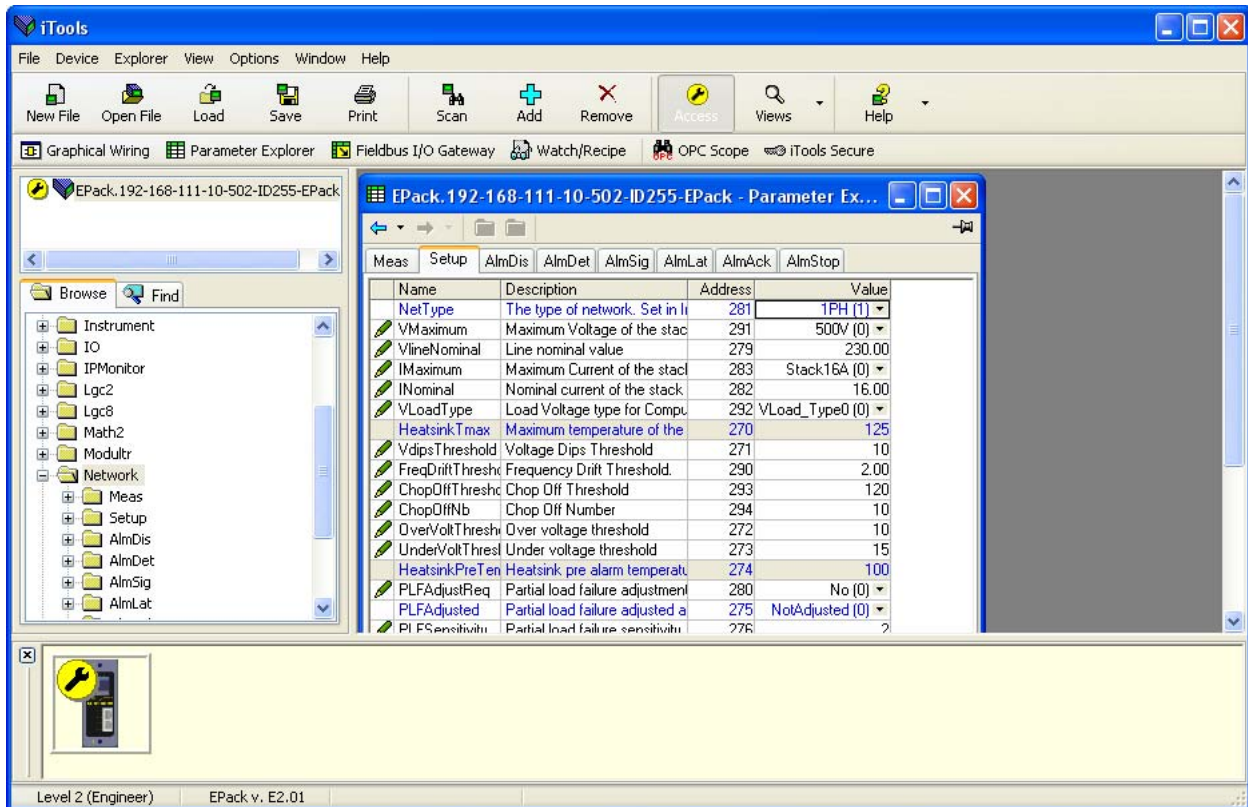
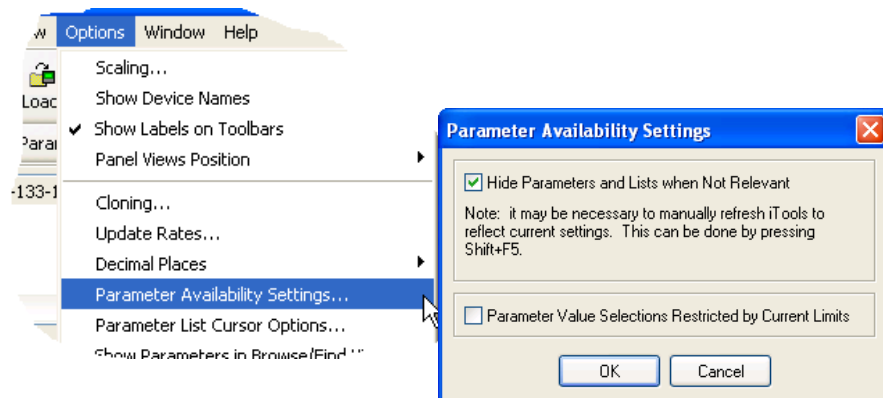

Figure 134 Parameter table example
Figure 137 Show/Hide parameters
In each case the function block parameters appear in the iTools window in tabular form, such as the example in figure 134.
- Parameters in blue are non-editable (Read only). In the example above all the parameters are read only. Read/write parameters are in black and have a 'pencil' symbol in the 'read/Write access column at the left edge of the table. A number of such items are shown in figure 134, above.
- Columns. The default explorer window (figure 134) contains the columns 'Name', 'Description', 'Address' and 'Value'. As can be seen from figure 137, above, the columns to be displayed can be selected, to a certain extent, using either the 'Explorer' menu or the context menu. 'Limits' have been enabled for the example above.
- Hidden Parameters. By default, iTools hides parameters which are considered irrelevant in the current context. Such hidden parameters can be shown in the table using the 'Parameter availability' settings item of the options menu (figure 137). Such items are displayed with a shaded background.